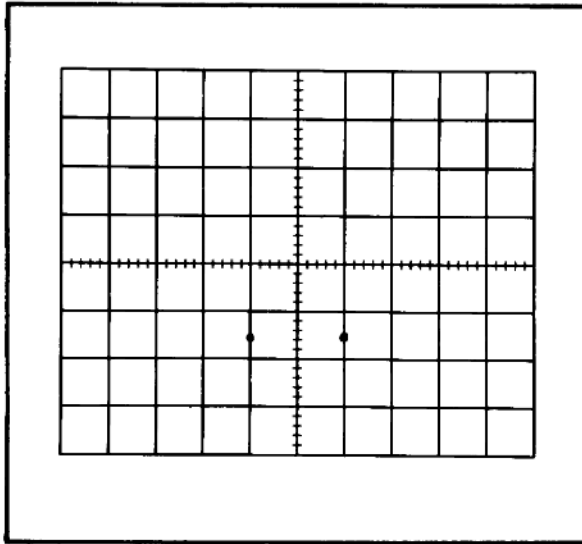

Fig. 5-10. Typical CRT display when checking external horizontal operation.
b. CHECK—Two dots displayed on screen about two divisions apart (deflection factor about 5 volts/division, see Fig. 5-10).